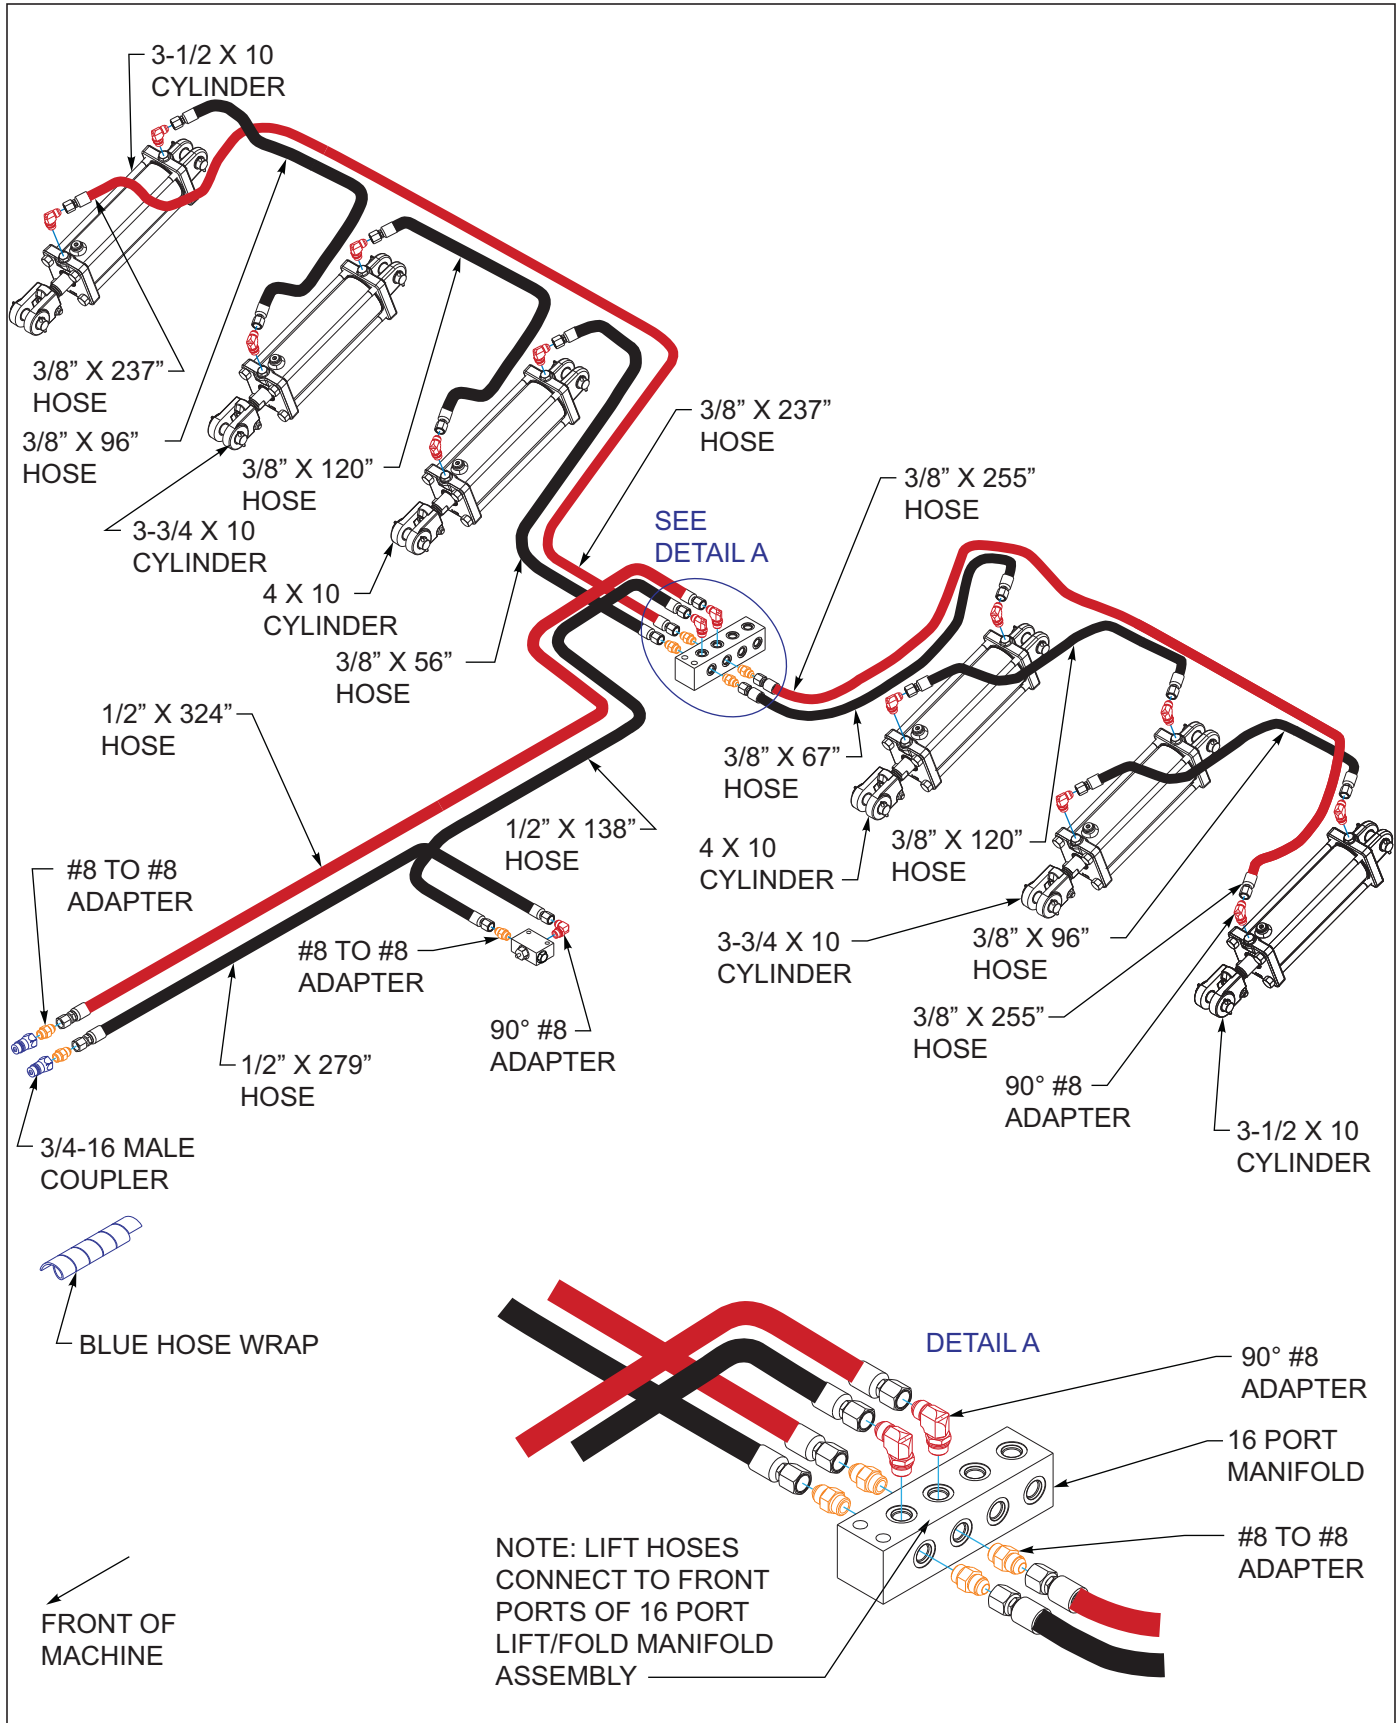

Figure 3-10: Hydraulic Lift Installation 9650-38-42'
See Figure 3-10 through 3-21 for hydraulic installation
- Models 9650 38'-42'** *See Figure 3-10 through 3-12 for hydraulic lift installation and layout.*